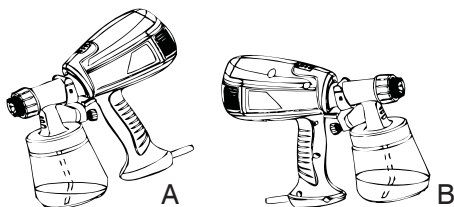

FIGURE 9.2
- Align the delivery pipe (see Figure 9.2). With the delivery pipe in the correct position, the content of the reservoir may be completely sprayed;